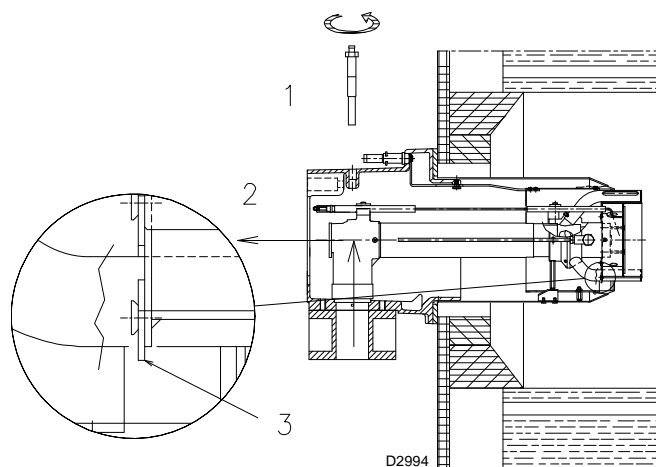

Fig. 11
- remove screw 1)(Fig. 11) and extract the internal part 2);
- Remove screw 1)(Fig. 11) and extract the internal part 2).